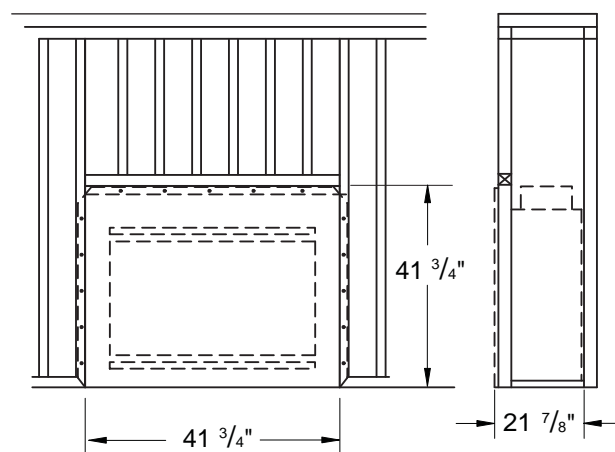

Figure 1 - Framing Dimensions
1. Frame opening for fireplace using the dimensions shown in Figures 1 and 2.